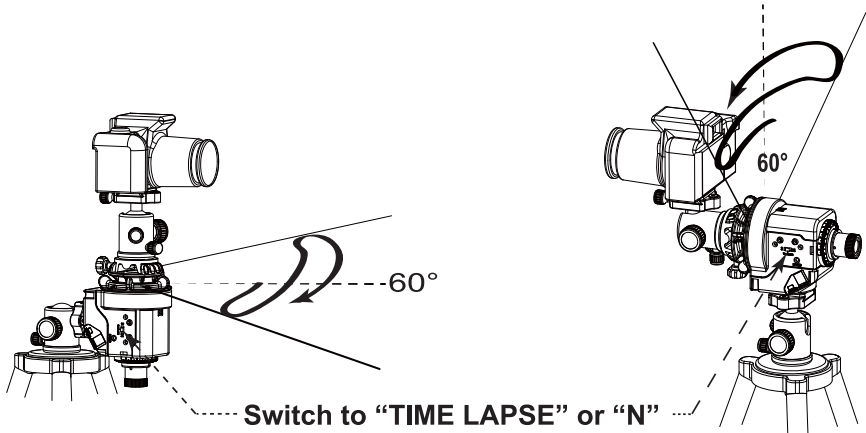

Fig 32
4. **Star Adventurer** will start to rotate to the right with a speed of 2 hour per revolution. When it first reaches 30° it will start to reverse until it reaches 60°. It will repeat the swing within this 60°. (Fig 32). At the same time, it will start to control the camera by activating the camera shutter release function with an interval period of 2 seconds (as if you were pushing on the shutter release button of the camera during 1.5 seconds, and not pushing during 0.5 seconds and pushing again during 1.5 seconds etc.).